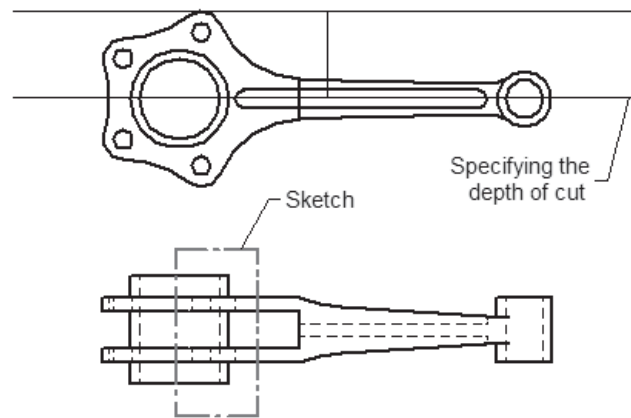

Figure 11-16 Specifying the profile and the depth of the cut
2. Draw the sketch as shown in Figure 11-16. After drawing the sketch, choose the **Finish** button from the ribbon bar to exit.
3. Next, you are prompted to specify the distance for the depth of the cut. This distance can be specified in the dimension box present on the ribbon bar or on the other orthographic view, as shown in Figure 11-16. After specifying the depth of the cut, you are prompted to select the view that needs to be broken.